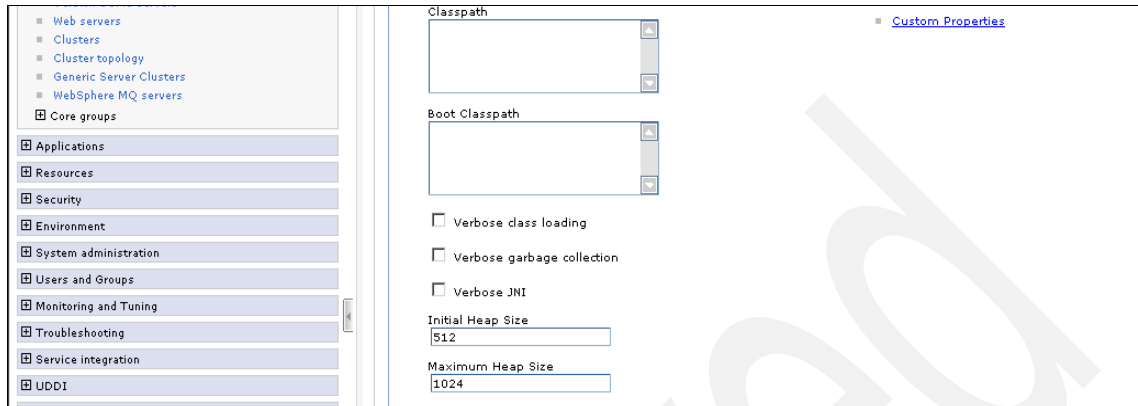

Figure A-4 Heap size definition
4. Scroll down and enter 512 for **Initial Heap Size** and 1024 for **Maximum Heap Size** and click **OK** (see Figure A-4).